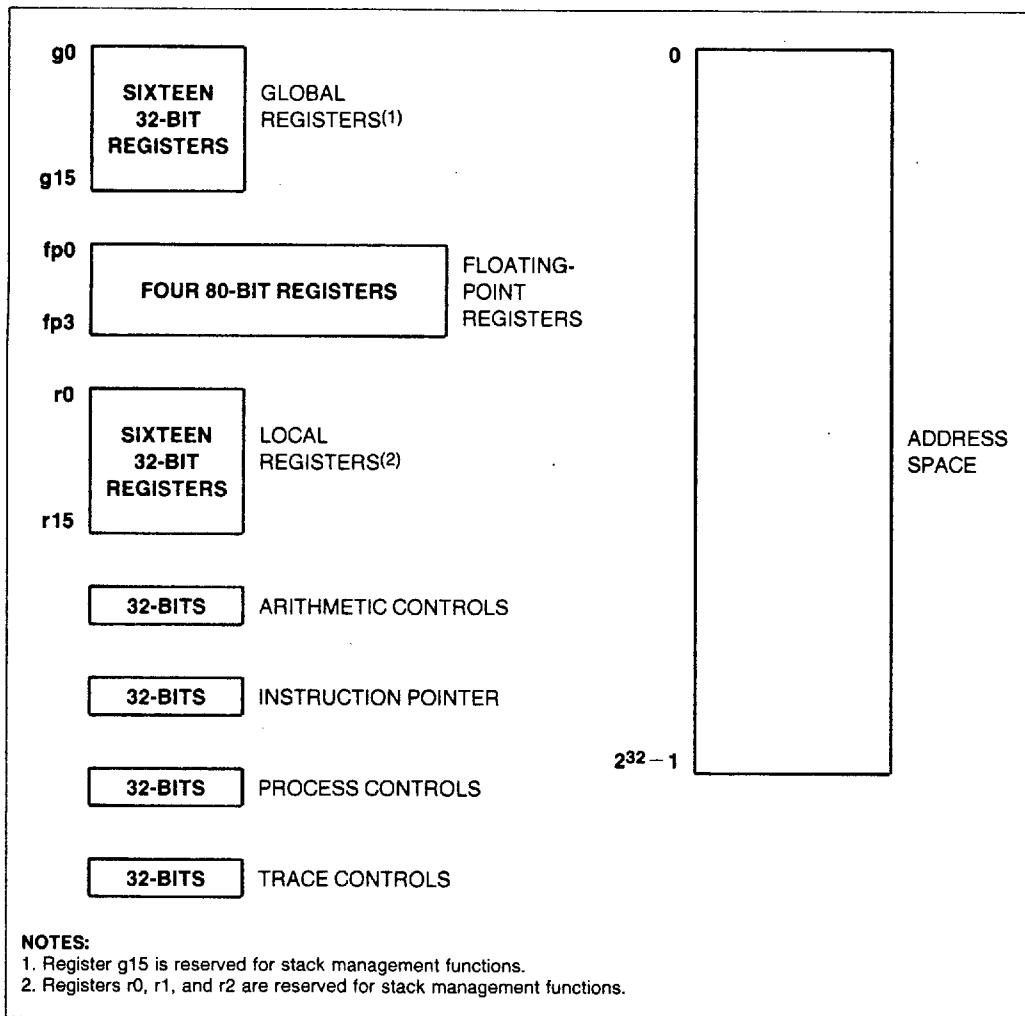

Figure 3. Register Set
**1. Large Register Set.** Having a large number of registers reduces the number of times that a processor needs to access memory. Modern compilers can take advantage of this feature to optimize execution speed. For maximum flexibility, the 80960XA provides thirty-two 32-bit registers (sixteen local and sixteen global) and four 80-bit floating-point global registers. (See Figure 3.)